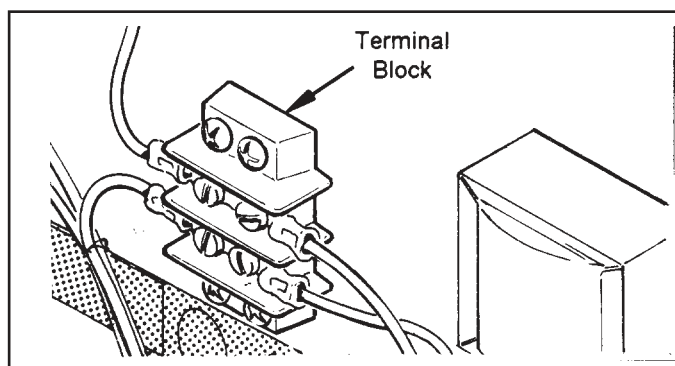

**Figure 16. Typical time clock wiring.**
If a time clock is provided to control the pool filter pump, it should have a separate low-voltage (Fireman's) switch for the heater. Route the heater's 24 VAC control circuit through this switch as shown in Figures 16 and 17. To do this, remove the “jumper” from the terminal block in the heater control compartment. Connect two (2) wires to this terminal block and route them to the Fireman's switch at the time clock. Provide wiring of at least 18 gauge with insulation at least 3/64" thick and having a temperature rating of at least 90°C.